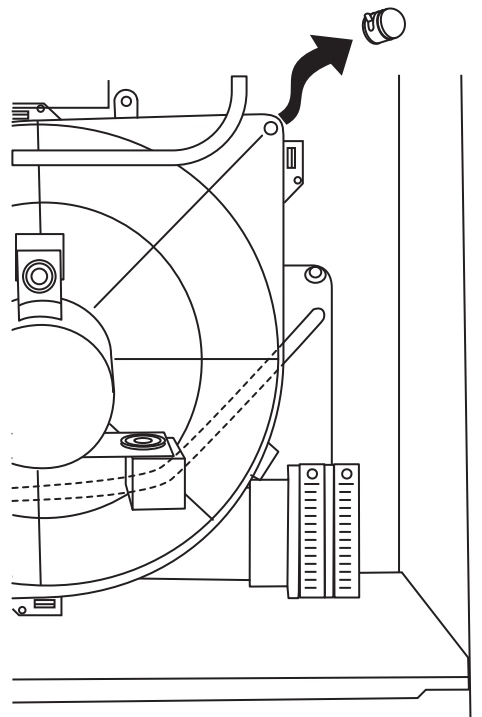

Fig. 20 - Drain Connection Cap
- Pour 1 quart of antifreeze into funnel/tube. Antifreeze should run through inducer housing, overflow condensate trap, and flow into open field drain. See Fig. 20.